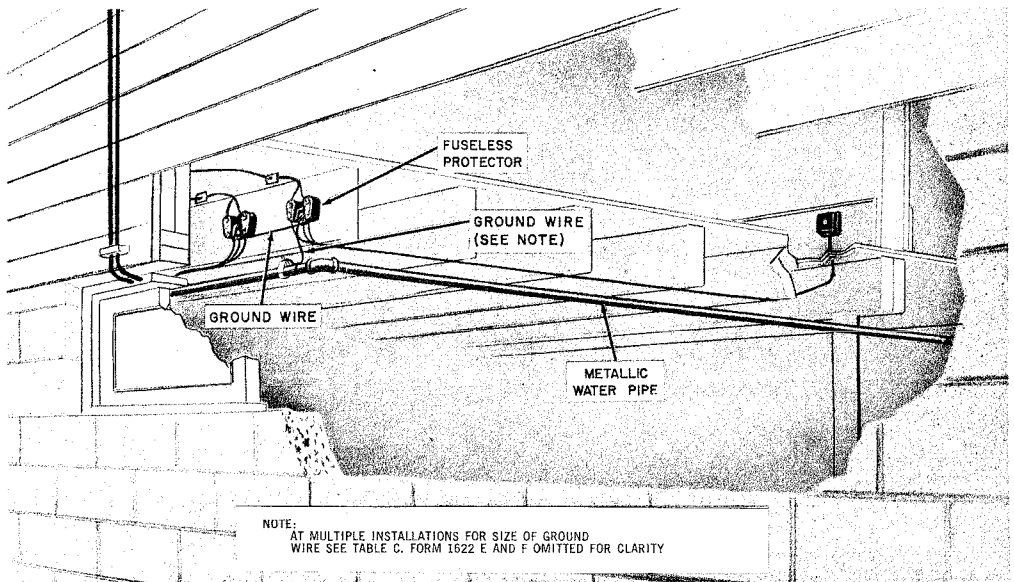

Fig. 19 — Ground Wire Run-Fuseless Protector
5.07 Whenever possible, use a 72A Bracket to ground a fuseless protector. If a ground wire is necessary, the run should be short, straight, and if possible a continuous piece of wire, (Fig. 19).